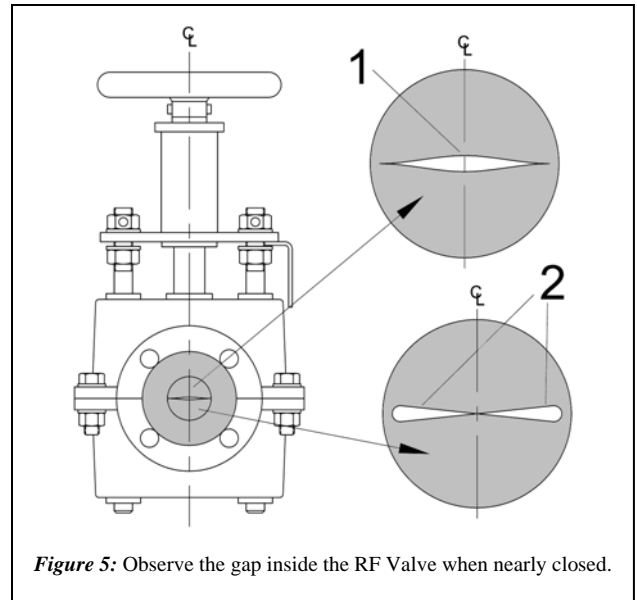

Figure 5: Observe the gap inside the RF Valve when nearly closed.
STEP 5: The next objective is to make sure the closure of the RF Valve® remains even about the centerline. Continue to actuate the RF Valve closed and observe the opening inside. One or two gaps may be present (Fig. 5) when the RF Valve is nearly closed.
After actuation the RF Valve® will not close completely. There will be a gap,  $\chi$ , inside (Fig. 5).